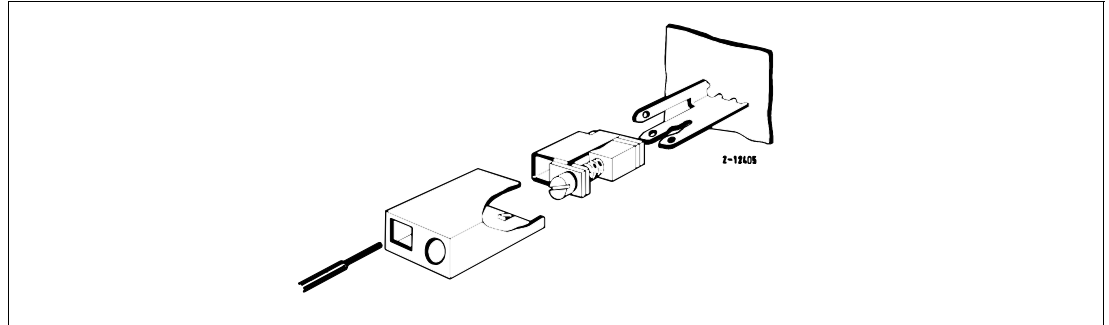

Fig. 3-9 Fitting a screw terminal
- Connect measuring circuits at screw terminals (see Fig. 3-9)
- Connect measuring circuits to screw terminals (see Fig. 3-9)